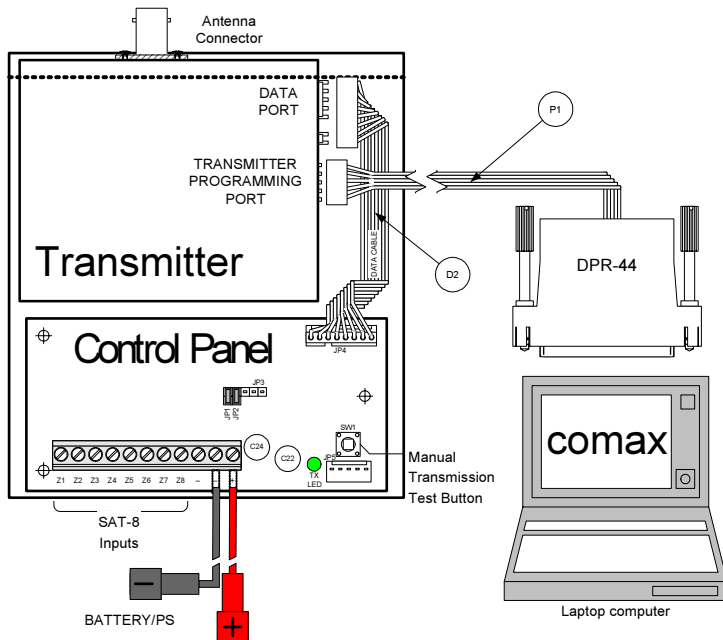

Figure 2 - SAT-8 with Cover Open
- 3 Disconnect the DATA cable from the transmitter's DATA PORT (see item D2 in Figure 2)
- 4 Connect the DPR-44 to the transmitter programming port (as seen in Figure 2). One end of cable P1 (Molex) to the transmitter and the RJ11 end to the DPR-44.